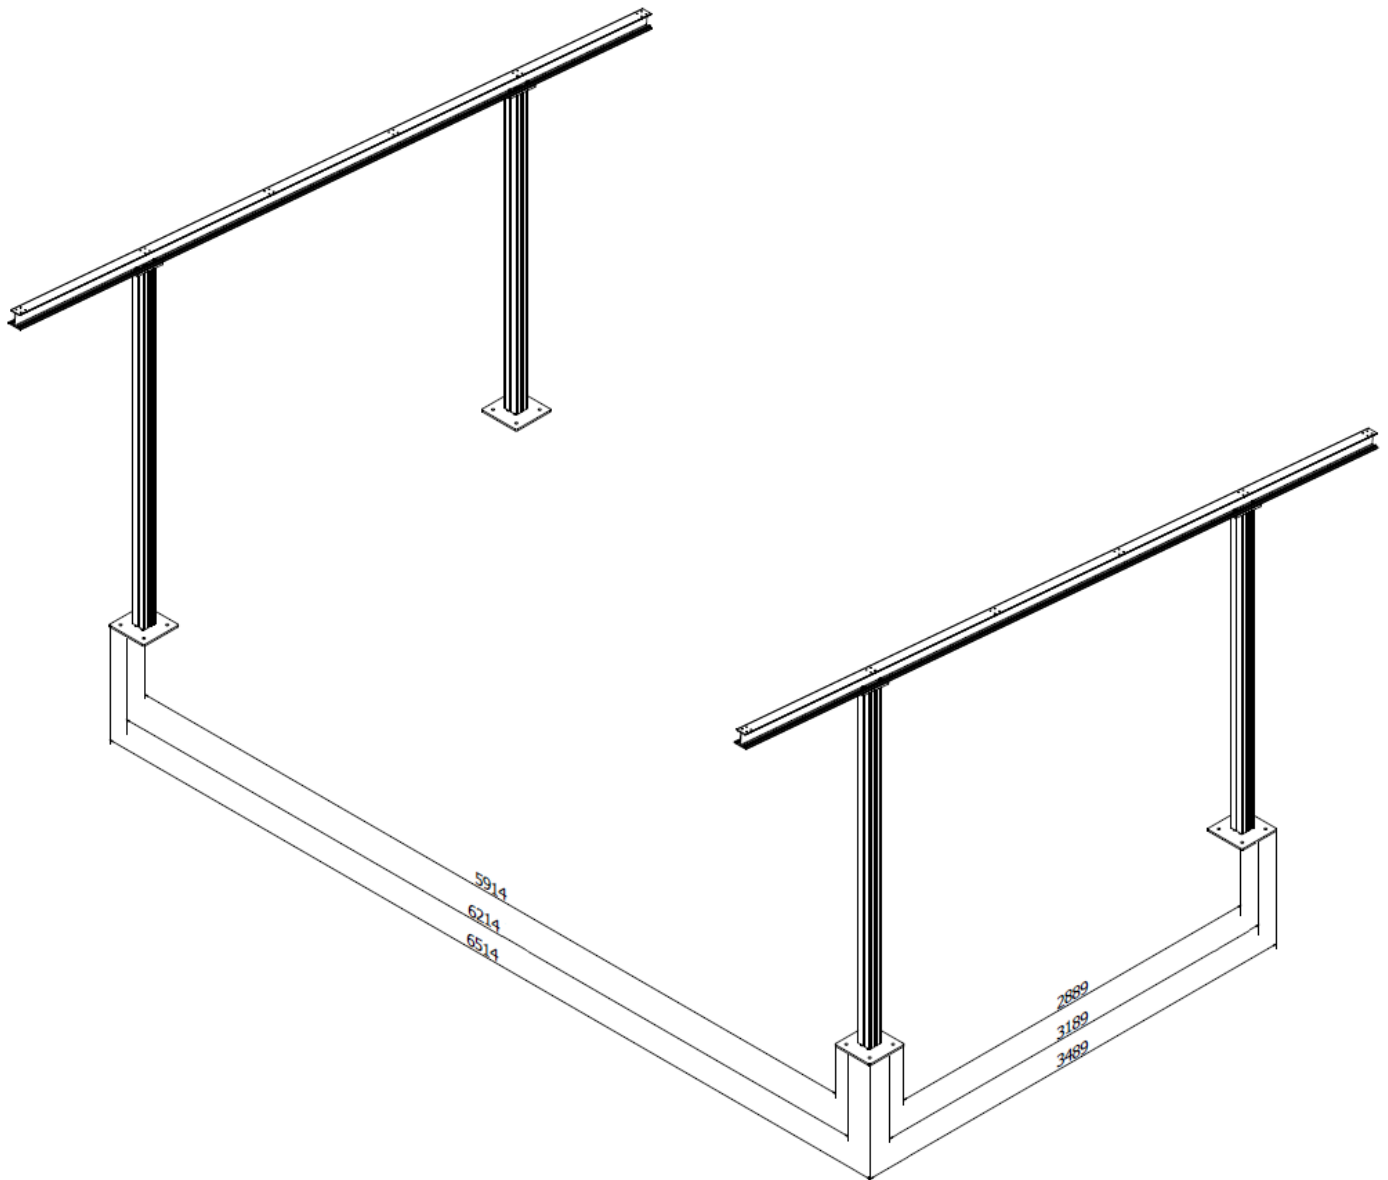

Figure 8. Foot spacing
- Prepared elements should be placed on the ground at spacing according to Figure 8.